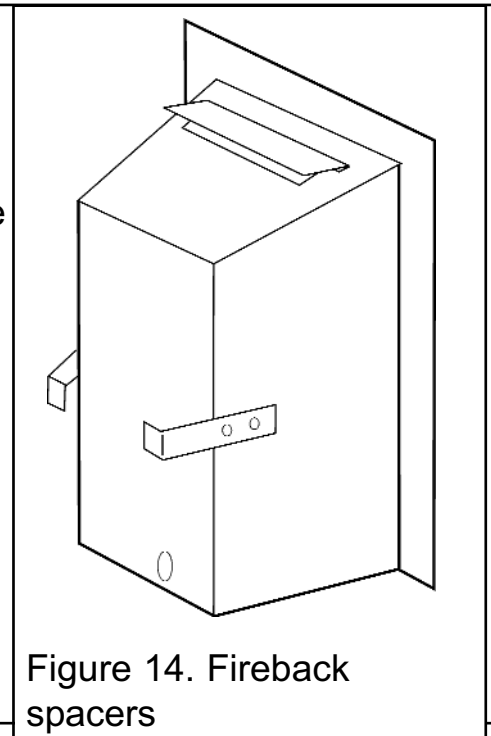

Figure 14. Fireback spacers
7. The appliance is supplied with two fireback spacers. **Do not fit the fireback spacers if the fire is to be installed into a precast or clay flue block system as in section 4.10.3.** These should extend backwards to ensure sufficient clearance from the back of the fireplace. Remove the label and retaining screws from the rear sides of the hotbox. Position the fireback spacer as shown in figure 14. Secure the fireback spacers using the screws removed previously and the two supplied with the fire.